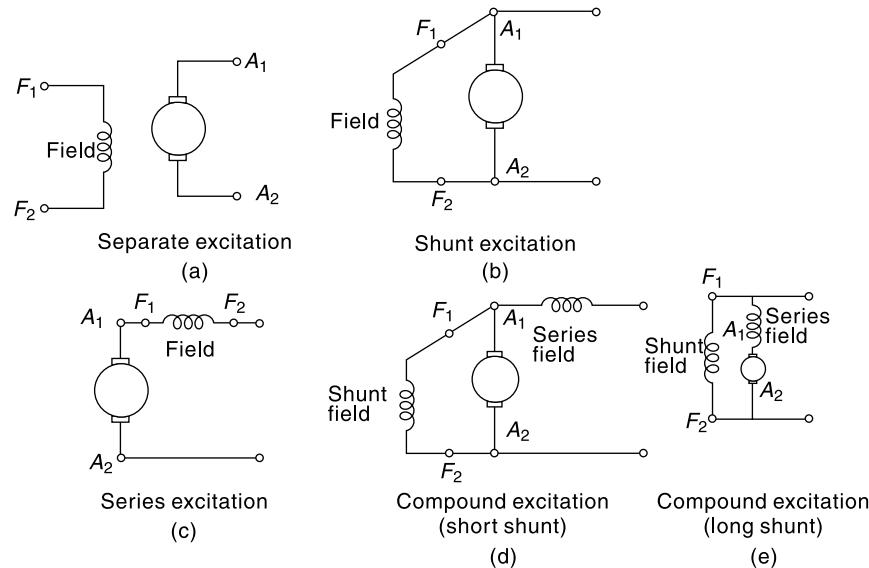

Fig. 2.3 *Different excitations*
The separately excited field winding consists of several hundred turns of fine wire and is connected to a separate or external dc source as shown in Fig. 2.3(a). The voltage of the external dc source has no relation with the armature voltage, i.e. field winding energised from a separate source can be designed for any suitable voltage.
- (a) **Shunt Excitation** [Fig. 2.3 (b)]. Here field excitation is obtained from the armature voltage. The shunt field excitation ampere turns (AT) is obtained by having a large number of field turns with a small field current. For a generator, shunt excitation is a type of self-excitation when the field winding resistance is high but field exciting current is low.
- (b) **Series Excitation** [Fig. 2.3 (c)]; The field is wound with a few turns of wire (of low resistance) and is excited in series from the armature current. This excitation varies with the load (current).
- (c) **Compound Excitation** [Fig. 2.3 (d) and (e)]; Both shunt and series fields are employed in this method.
If the shunt field is connected in parallel with the armature alone the machine is called a *short shunt compound* machine [Fig. 2.3(d)] and if the shunt field is connected in parallel with both the armature and series field the machine is called a *long shunt compound* machine [Fig. 2.3(e)].